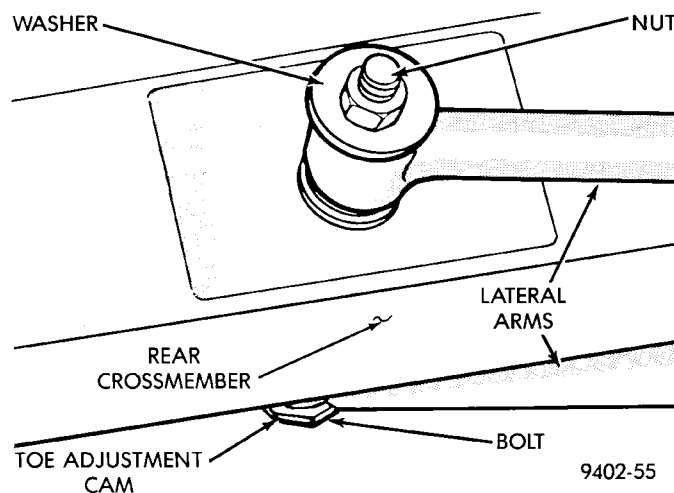

Fig. 24 Lateral Link Attachment To Crossmember
(4) Install Toe adjustment cam on long lateral link attaching bolt. Install long lateral link attaching bolt and adjustment cam, into lateral link toward rear of vehicle, having the large bushing sleeve. Then pass lateral link attaching bolt into rear crossmember (Fig. 24). **Head of long lateral link to crossmember attaching bolt must face to rear of vehicle when installed.**
(5) Position forward rear lateral link against rear crossmember (Fig. 24). Then pass the lateral link attaching bolt through front lateral link bushing sleeve.
(6) Install washer and nut onto lateral link attaching bolt at rear crossmember (Fig. 24). **Do not tighten the lateral link to rear crossmember attaching bolt at this time.**